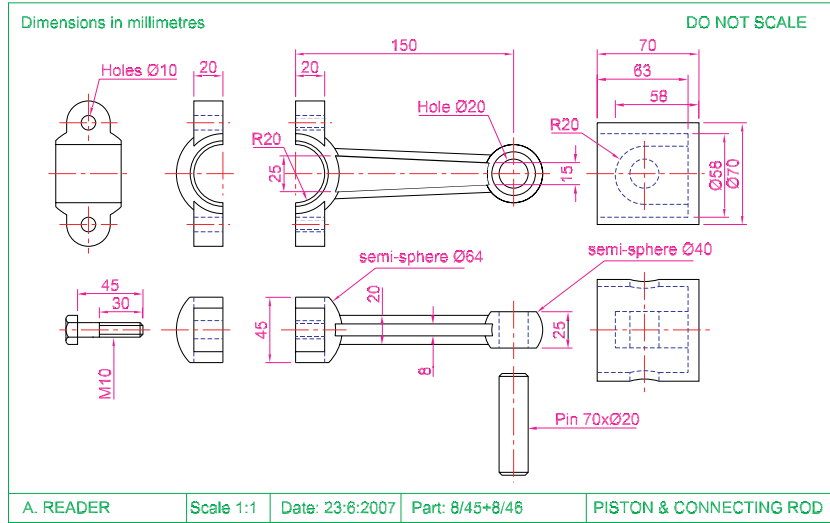

Fig. 11.14 Exercise 1 – the exploded orthographic projection
1. Fig. 11.14 is an exploded orthographic projection of the parts of a piston and its connecting rod. There are four parts in the assembly. Small drawings of the required sheet set are shown in Fig. 11.16.
Construct the drawing in Fig. 11.14 and also the four drawings of its parts. Save each of the drawings in a **Layout1** format and construct the sheet set which contains the five drawings.